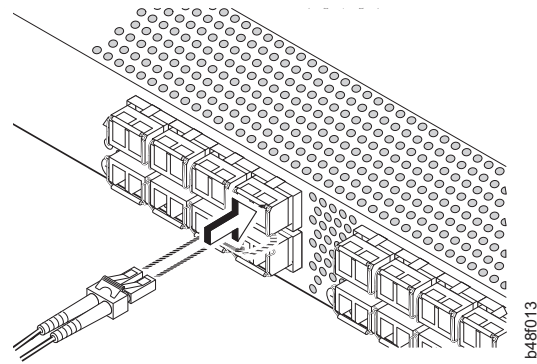

Figure 10. Installing a cable
3. Orient a cable connector so that the key (the ridge on one side of the connector) aligns with the slot in the transceiver (see Figure 10 on page 21). Then, insert the cable into the transceiver until the latching mechanism clicks. Cables are keyed so that they can be inserted in only one way. If a cable does not slide in easily, ensure that it is correctly oriented.